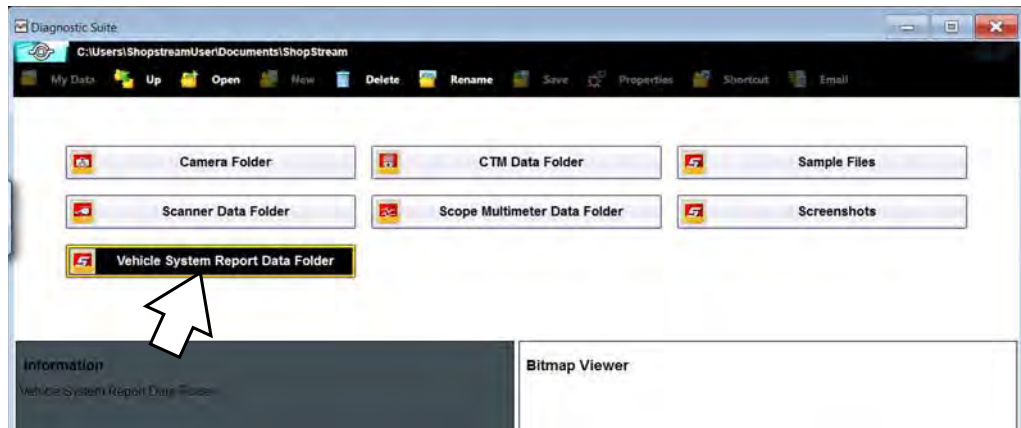

Figure 4-20
2. Select and open the Vehicle System Report Data Folder (Figure 4-20).